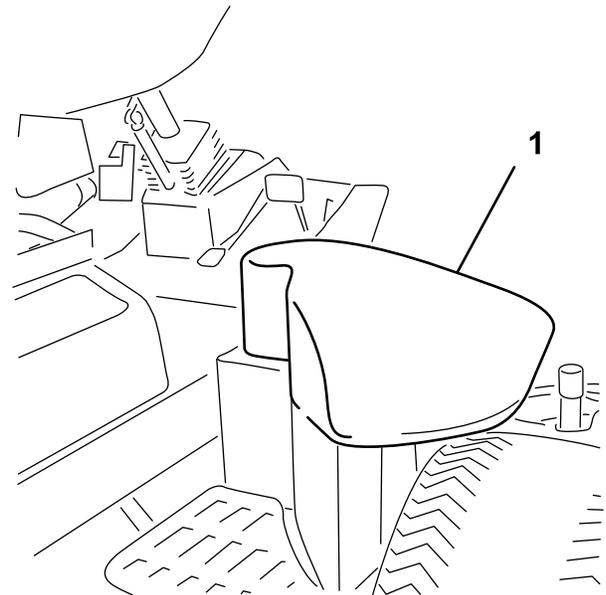

Figure 37
2. On the right side of the machine, raise the hydraulic tank cover (Figure 37).